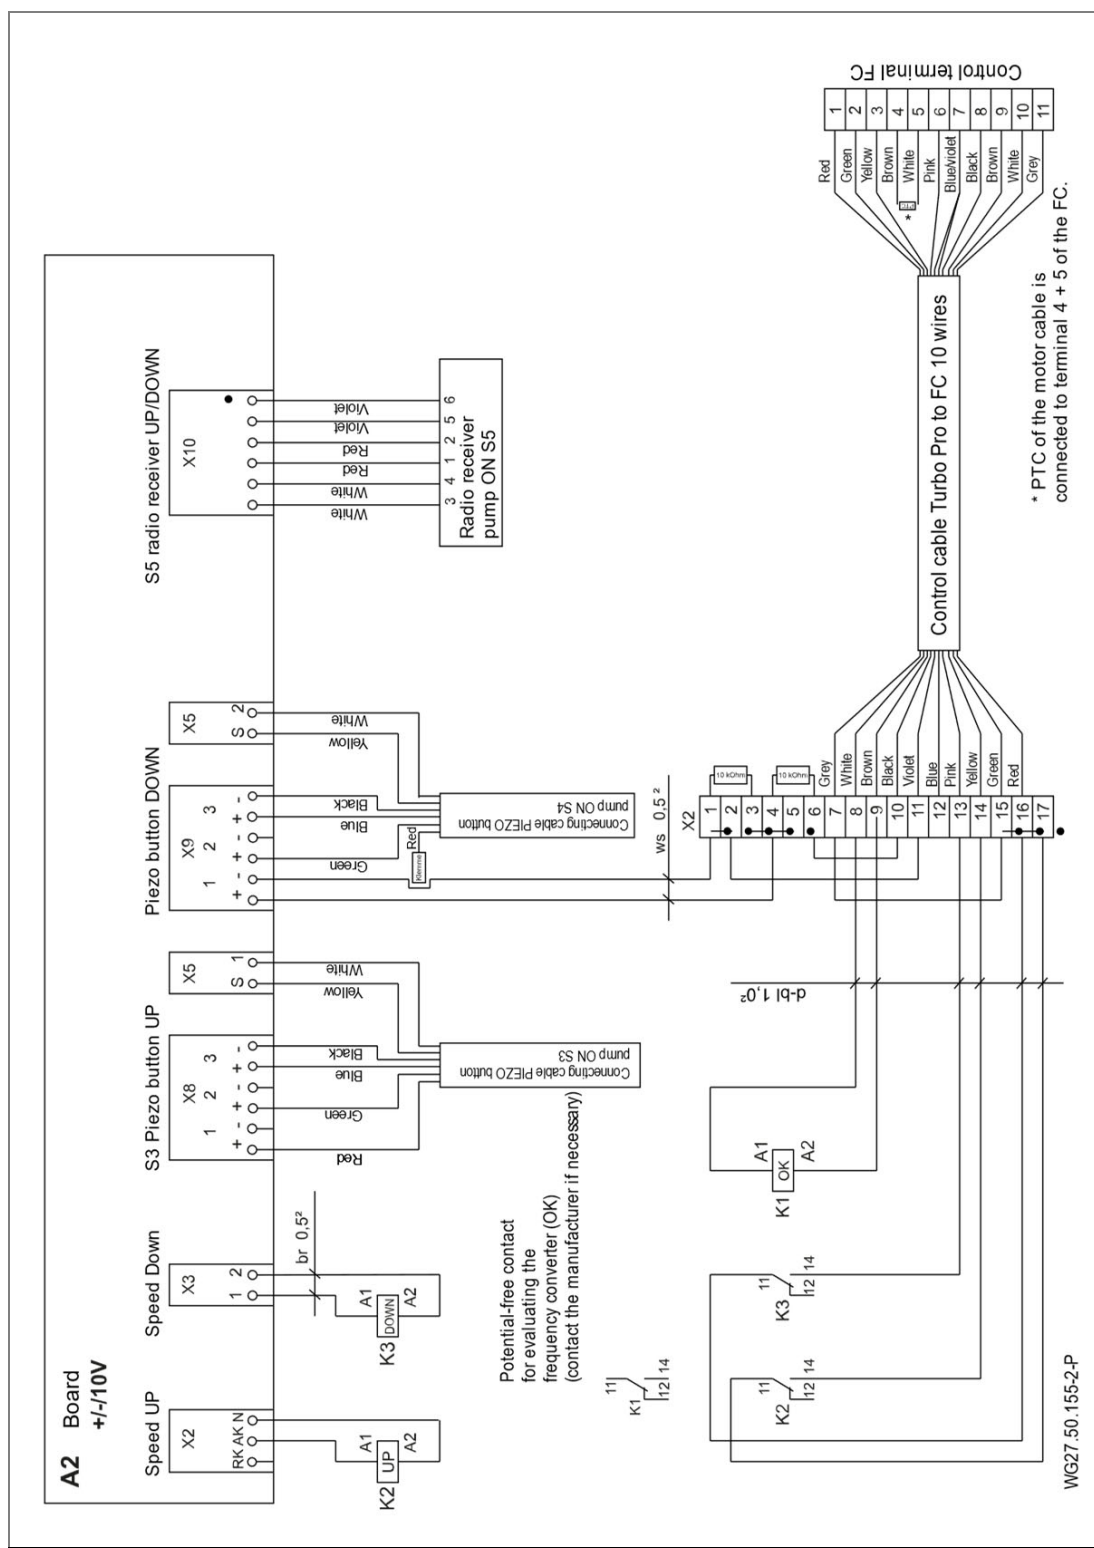

Fig. 18
14. The wires for the PTC (brown/white) must be connected according to the circuit diagram. See "Fig. 18" on page 34